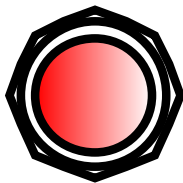

Figure 43. Pre-Heat Lamp
3. In **cold** weather conditions with the ignition key placed in **RUN** position, the pre-heat lamp (Figure 43) will turn on (**RED**) indicating pre-heating of the glow plugs is underway. When the pre-heat lamp turns **OFF** the engine will start automatically.